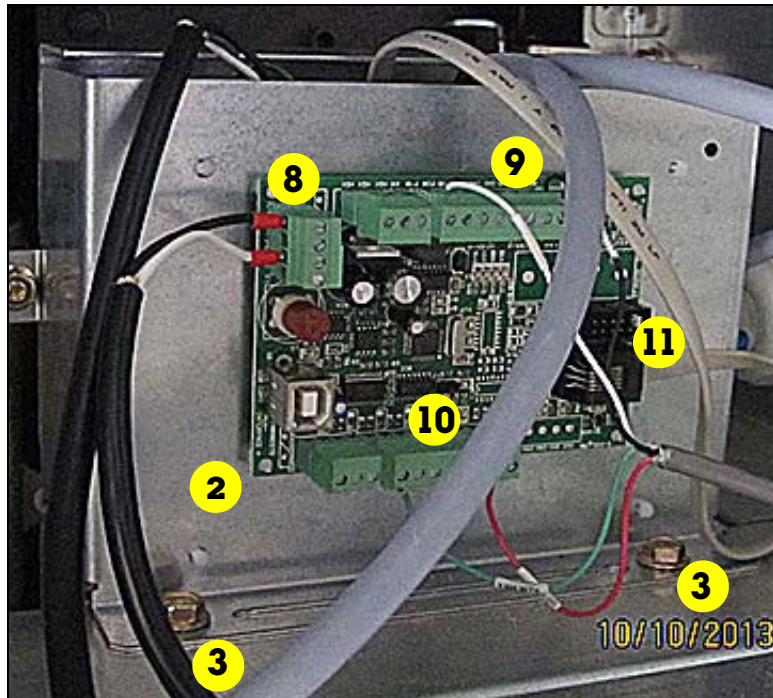

Figure 9. Mount The VaporTEK Interface To The Back Side Of The Support Bracket
2. Mount the VaporTEK Interface board to the new sheet metal bracket 900852-001 with the 4 stand offs (579080-001) from the kit (Figure 9).
3. Attach VaporTEK Controller/Interface sheet metal bracket 900852-001 to the dispenser with M6 socket head bolt and M6 nut (Figure 9).
8. Plug the 24V cable with connector to the VaporTEK Interface board (Figure 9).
9. Plug the Pulse Side B cables with connector to the VaporTEK Interface (Figure 9).
10. Plug the Pulse Side A cables with connector to the VaporTEK Interface (Figure 9).
11. Plug the RJ12 cable socket to the VaporTEK Interface (Figure 9).